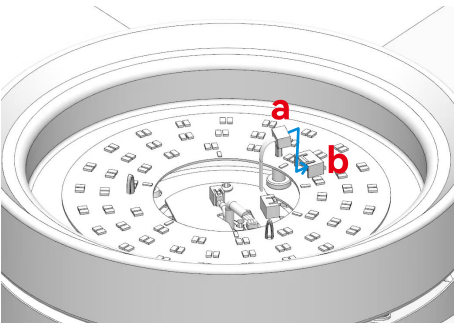

Fig. 3.3
3.3 Insert the wire plug (a) into the light kit terminal block (b) on the light kit as shown in Fig. 3.3.